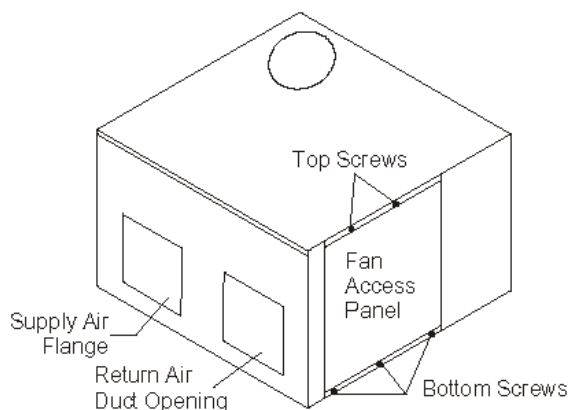

Figure 7: Fan Access Panel
2. Use a 5/16" nut driver to remove the two top and three bottom screws securing the fan access panel as shown in Figure 7. Remove the fan access panel.